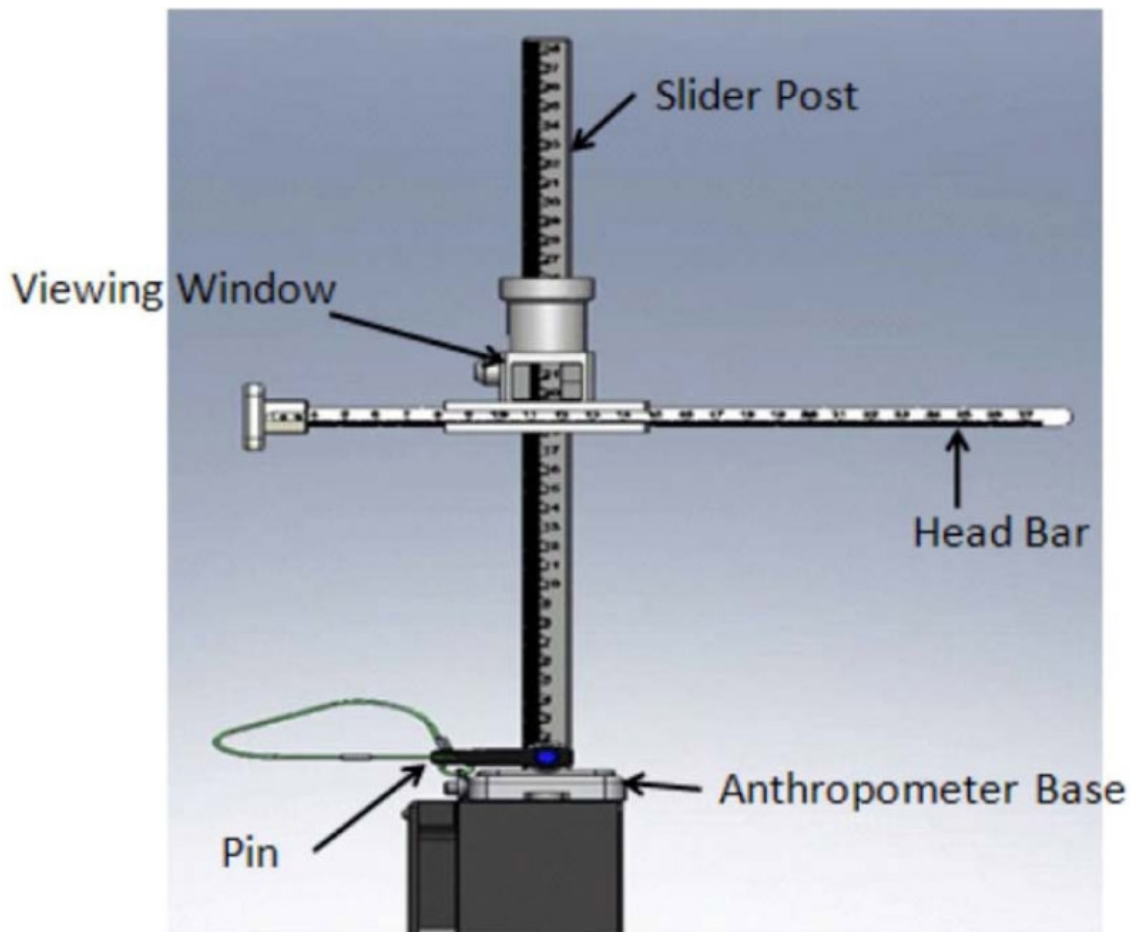

Figure 9. Head Bar Connected to Slider Post
- 5.6 Retrieve Head Bar from tmpry stow and insert into slot on Slider Post, ensuring that numbers on the Head Bar and slot on the Slider Post are facing the D2Xs Camera. Refer to Figure 9.